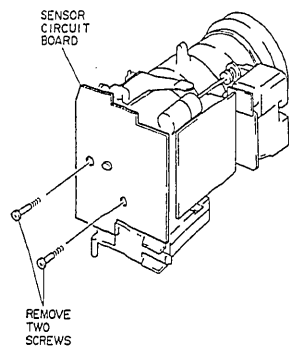

Fig. 2-16
- 1) Remove two (2) screws holding the sensor circuit board. (See Fig. 2-16)